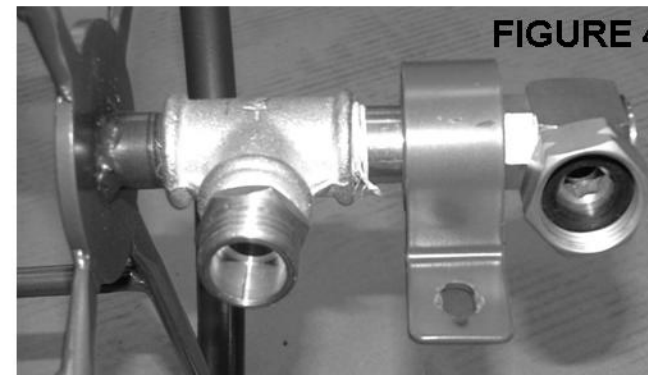

FIGURE 4
4. Screw the galvanized tee onto the spool end (B). Tighten with wrench. See Figure 4.